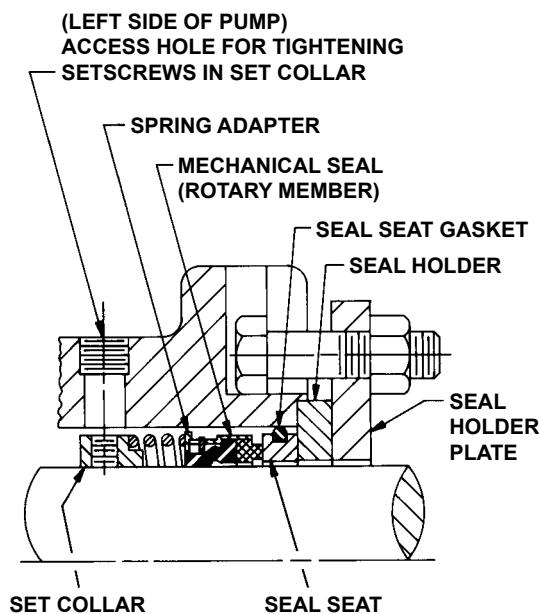

FIGURE 15
4. Rotate the shaft so that the two setscrews for the set collar can be seen through the seal access hole on the left side of the pump (viewed from the shaft end). These two setscrews must be loosened before the shaft can be removed from the pump. **Refer to Figure 15, page 13.**
- Place the seal set collar on the shaft, push into the seal chamber so the centerline of the setscrew coincides with the centerline of the access hole on the left side of the bracket (viewed from the shaft end). **Refer to Figure 15.** Tighten the setscrews to secure the set collar to the shaft.